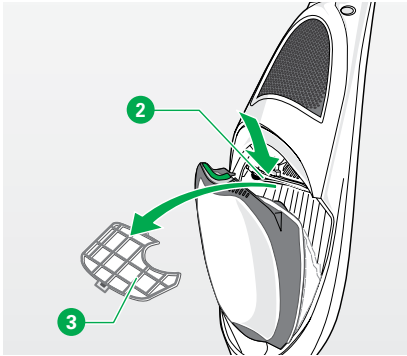

Fig. 4.8 Motor protection
- Press the shackle **2** of the frame of the motor protection filter **3** until the Motor protection filter is released from the fastening device (see Fig. 4.8 on page 69).